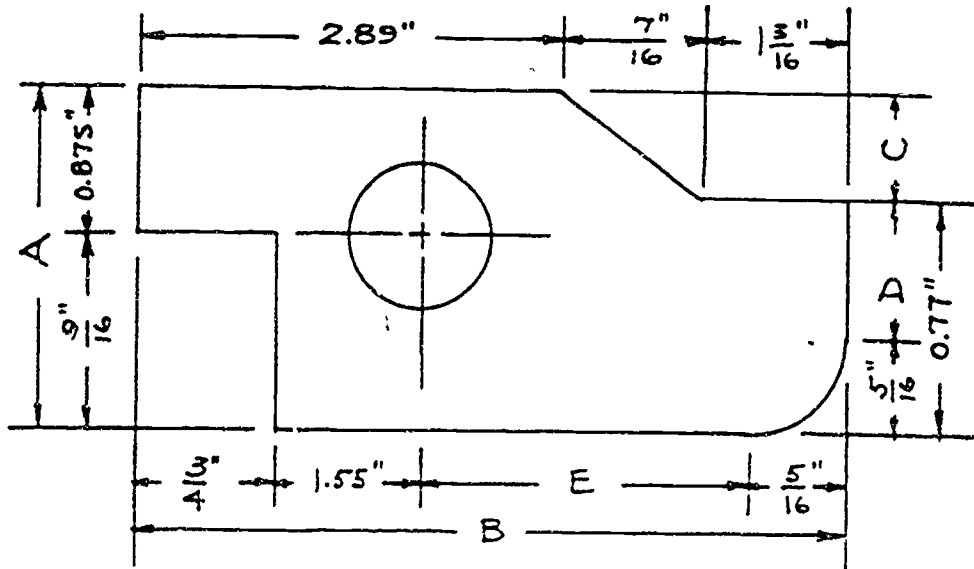

Figure 2: Find the missing dimensions.
8. You must lay out a gage block for your Instructor who has given you the sketch shown below in Figure 2. Find the missing dimensions A, B, C, D, and E. *A = _____ B = _____ C = _____ D = _____ E = _____*